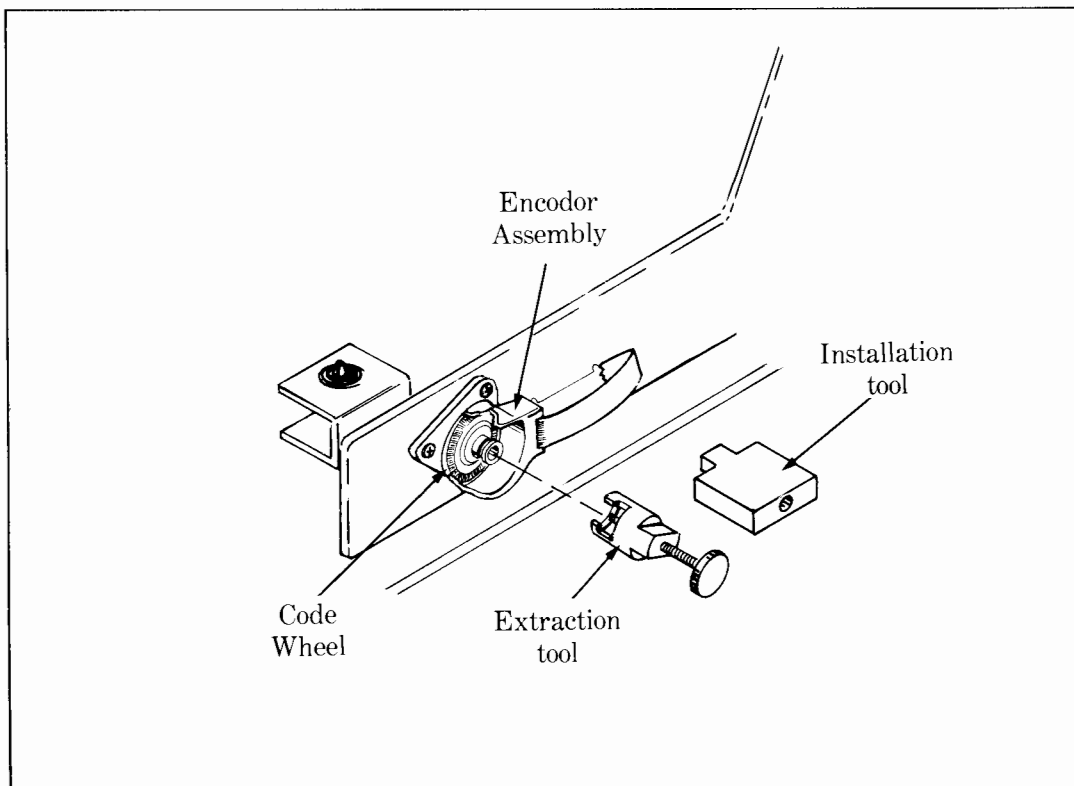

Figure 4-4. Encoder Installation (2631B and 2635B)
- e. Slip the extraction tool onto the code wheel (See Figure 4-4) so that the lip fits over the lip on the code wheel.